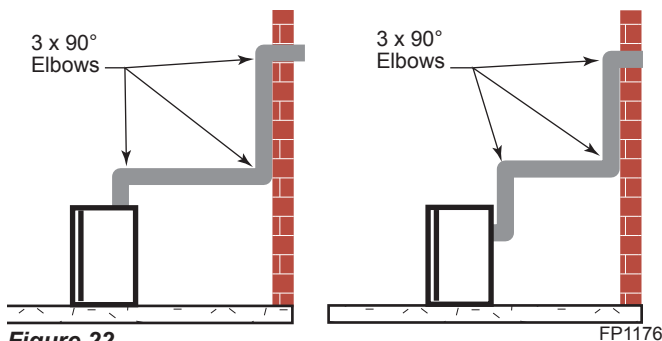
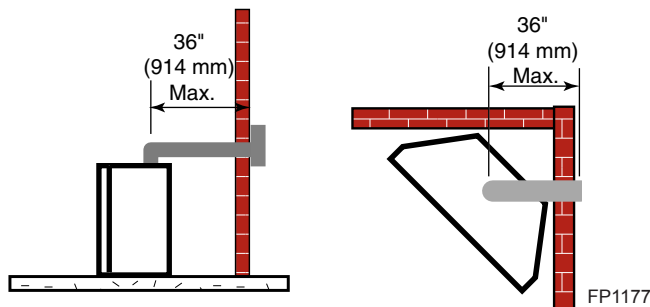

Figure 22 -
Figure 23 -
- The maximum number of 90° elbows per side wall installation is three (3). *Figure 22*
- If a 90° elbow is fitted directly on top of the fireplace flange the maximum horizontal vent run before the termination or a vertical rise is 36" (914 mm). *Figure 23*
- If a 90° elbow is used in the horizontal vent run (level height maintained) the horizontal vent length is reduced by 36" (914 mm). *Figures 23 & 24*. This does not apply if the 90° elbows are used to increase or redirect a vertical rise. *Figure 22*